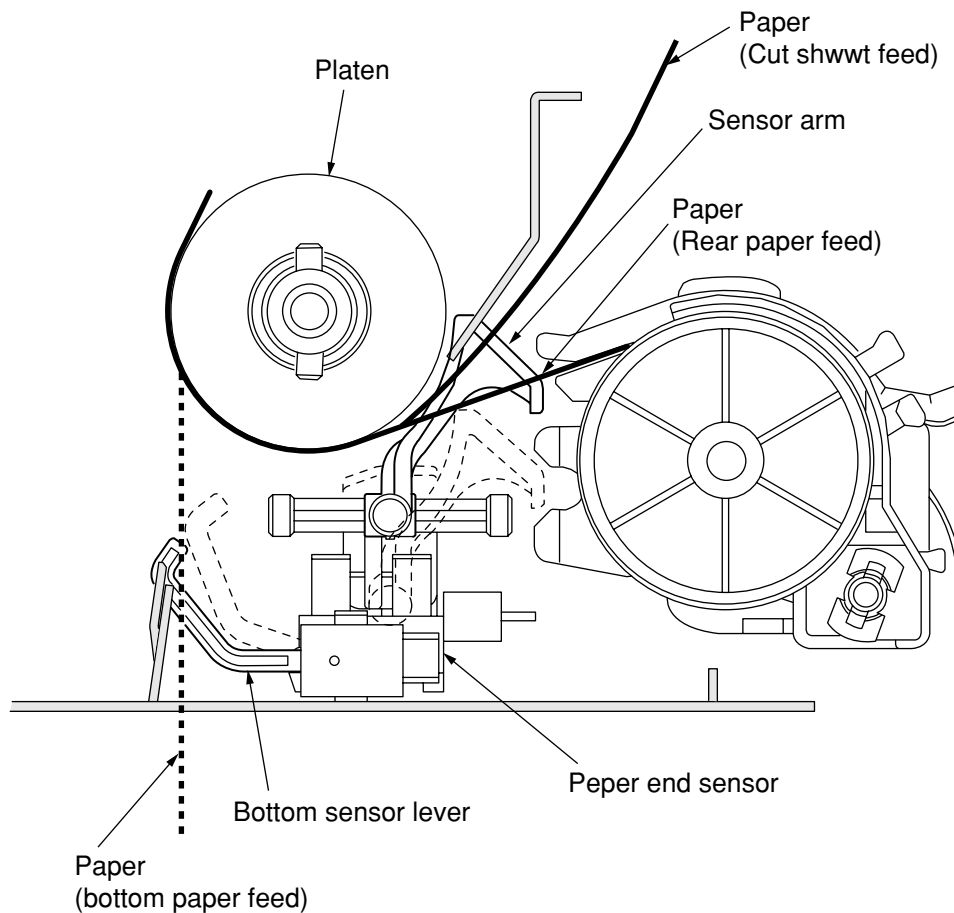

**Figure 11**
#### (1) Cut sheet detection/Rear feed detection(See Figure 11.)